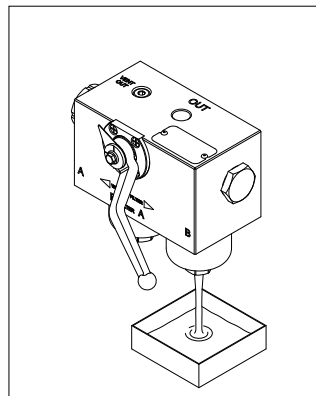

fig. 19
- (Fig. 19) Drain the operating fluid from the bottom of the bowl into the collection vessel